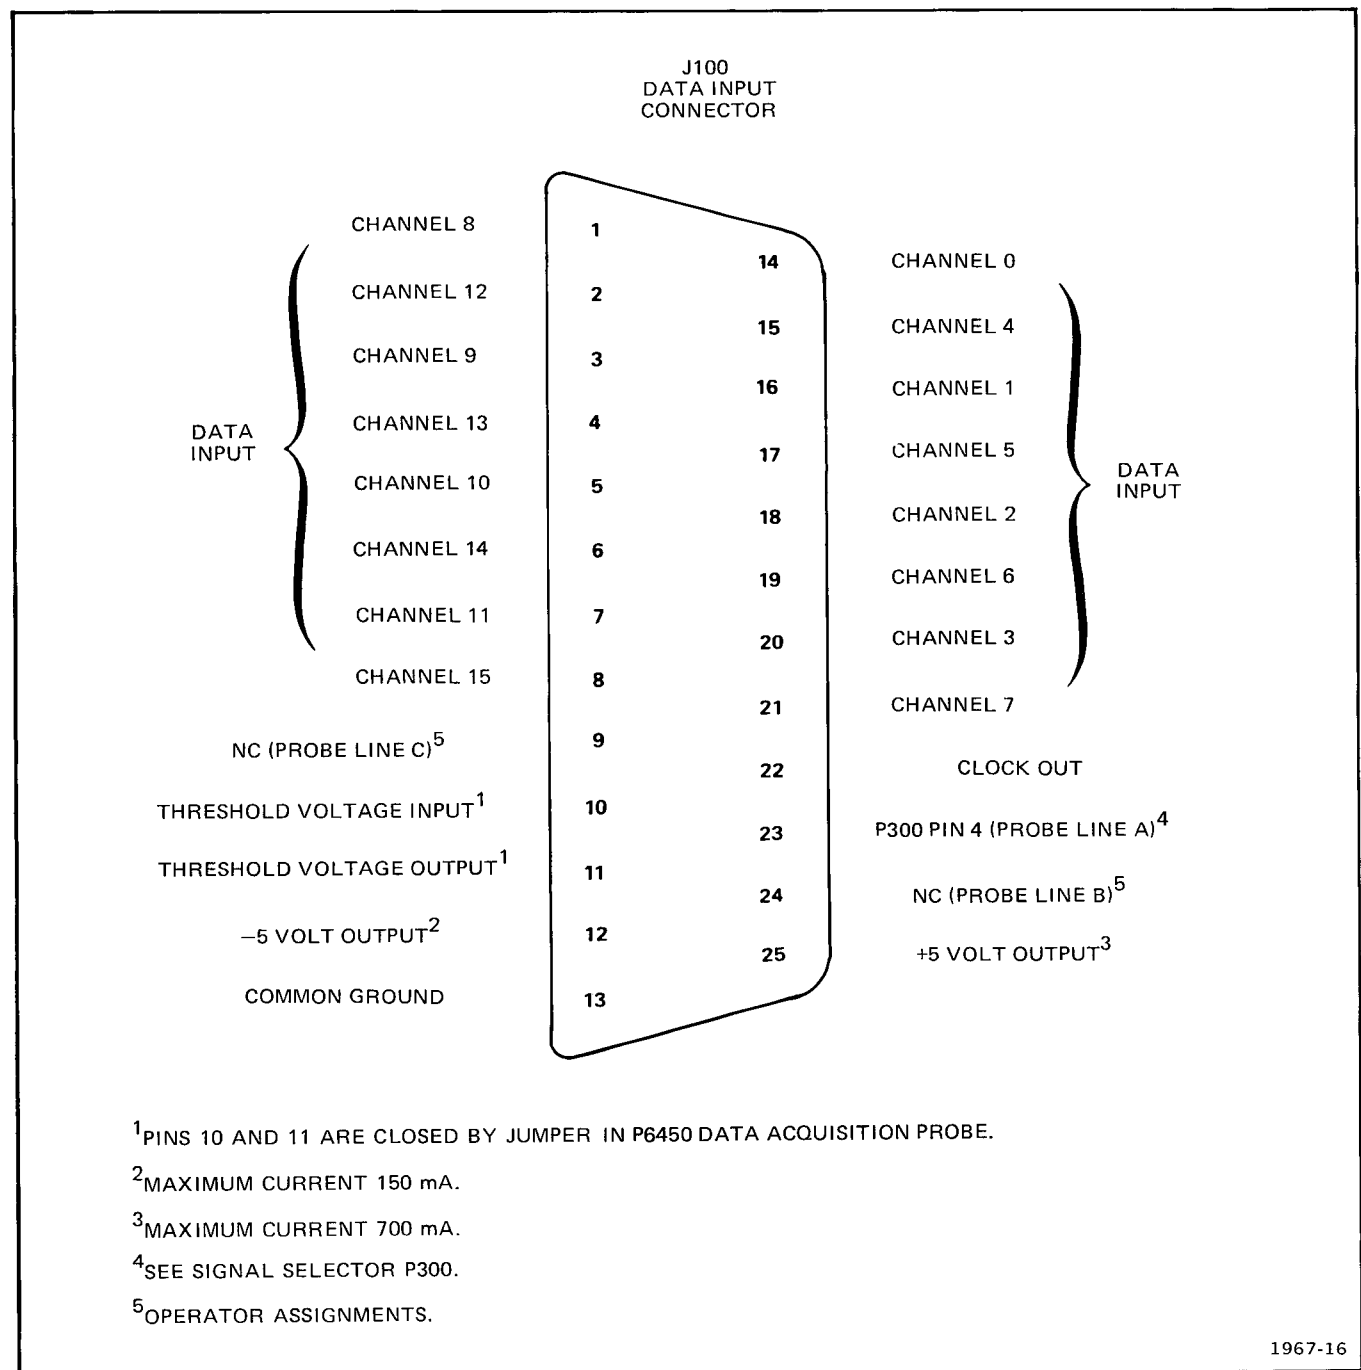

Fig. 1-8. Pin assignments for the DATA INPUT connector, J100.
**DATA INPUT.** The internal, multi-pin connector, J100, provides a means of connecting data signals through the Data Acquisition Probe to the inputs of all 16 channels. Figure 1-8 identifies the pin assignments for the DATA INPUT connector. The Clock Out at pin 22 is an unterminated ECL-level output of the internal clock signal. Pin 23 of J100 (probe line A) is connected to Signal Selector jumper, P300. At the factory, P300 is wired to connect pin 23 of J100 to the Invalid Mode Input line. However, this connection can be changed to a different signal line if desired. For further information, see P300 Signal Selector in this section.